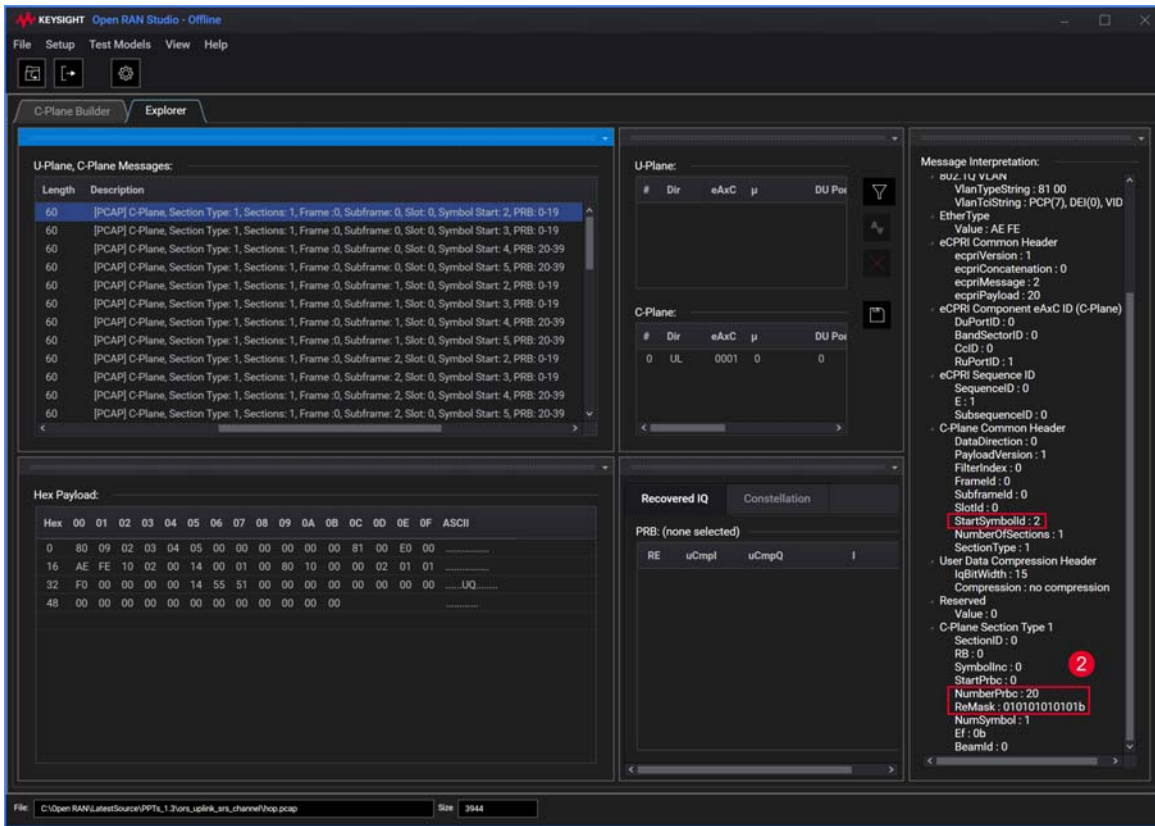

Figure 137 Viewing reMask pattern for StartSymbolId: 2
- 11 In the 'U-Plane, C-Plane Messages' area, highlight the first row of C-Plane messages, which correspond to StartSymbolId: 2, as shown in Figure 137.